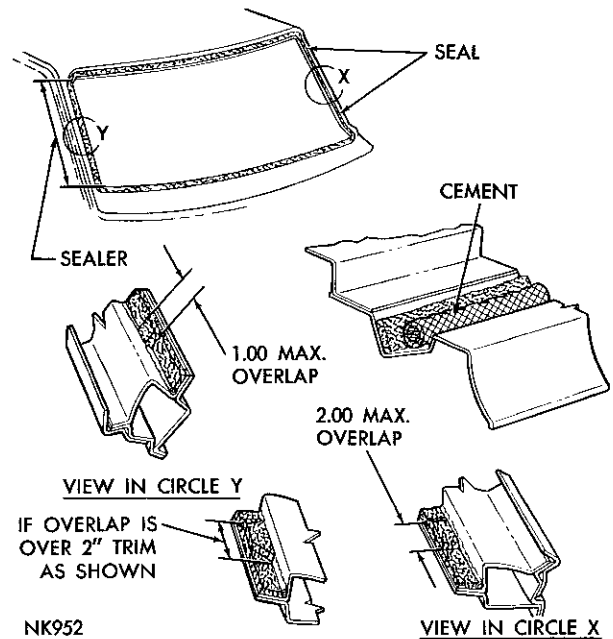

Fig. 120—Windshield Seals
(1) Apply a ¼ inch bead of sealer down both windshield side frames to the upper end of the lower corners (Fig. 120).
(2) Apply the polyethylene seal, if removed, to the windshield opening fence starting at the lower end and above the sealer applied in step 1.
- (3) Pressurize the seal to the fence with hand pressure.
- (4) Apply the upper seal by starting with a 3/4 inch overlap (maximum) at the left hand side.
- (5) When the upper seal is completely installed, the seal should overlap the lower seal at the right hand side by two inches (maximum).
- (6) If the overlap is greater than two inches, trim off the excess at approximately a 30 degree angle (Fig. 120).
- (7) Hand pressurize the seals to eliminate all wrinkles or puckers.
- (8) Apply a 3/8 inch bead of cement across the cowl top panel at the bottom of the upstanding flange of the windshield opening.